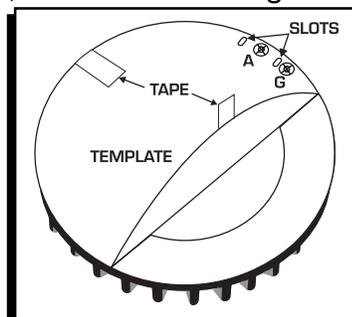

Figure 1 Preparing the Flywheel.
2. Position the flywheel with the engine side facing up. Locate the magnet positioning template, line up the slots and tape it to the flywheel (Figure 1).